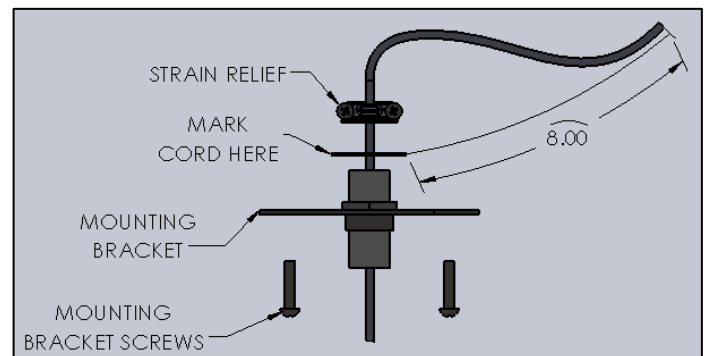

FIG. 15– CORD INSTALLATION TO J-BOX
4. Mark CORD with marker above the all-thread and Trim off excess cord leaving minimum of 8" past the Top of the all-thread as shown below in FIG. 15.